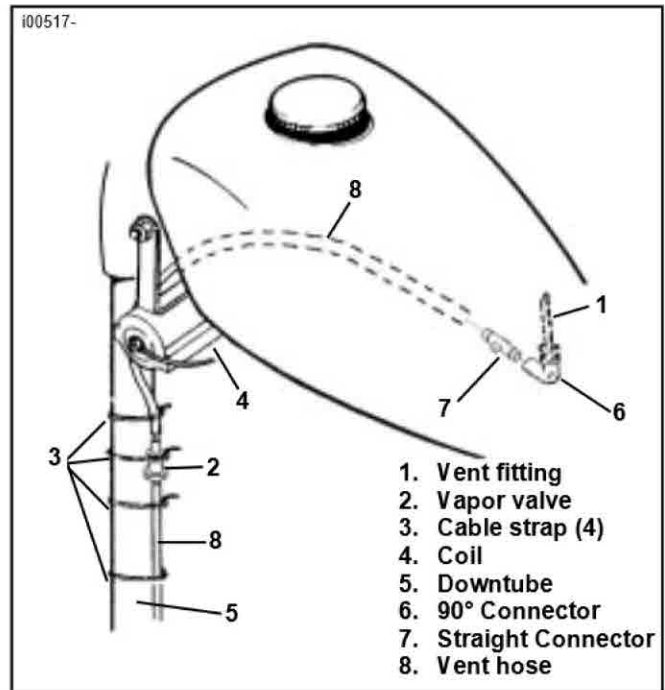

Figure 6. Vent Hose Routing (Left Side)
- See Figure 6. Attach to tank vent fitting (1) (located at right, rear, bottom of new fuel tank) the large end of 90° connector (6). Attach small end of 90° connector to straight connector (7). Attach new vent hose (8) to straight connector (7).
- Position the vent hose (8) along the frame backbone. Eliminate any low points.
- Measure and cut sufficient new vent hose (8) and attach it to straight connector (7) in evap system (not shown).
- See Figure 6. Attach vapor valve (2) to left downtube (5) with cable strap (3). Locate vapor valve (2) approximately 4 in. below upper front engine mount on inside rear quadrant of downtube (5).